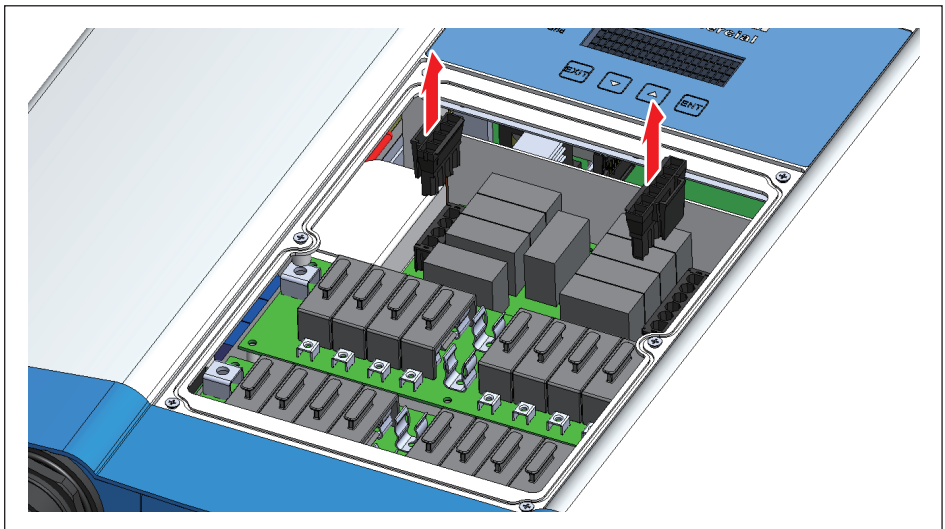

Figure 6-2 : Recognize the connectors
3. Recognize the connectors. (**Figure 6-2**)